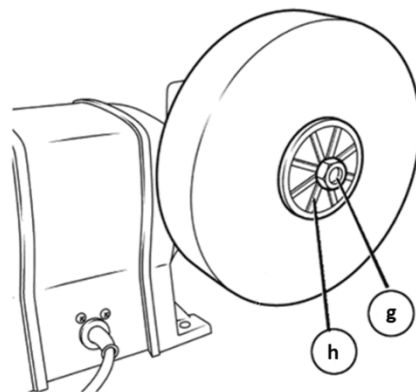

Fig. 5c
- Remove the outer flange (h) from the spindle, then remove the wet grinding wheel (1). See Fig. 5c.